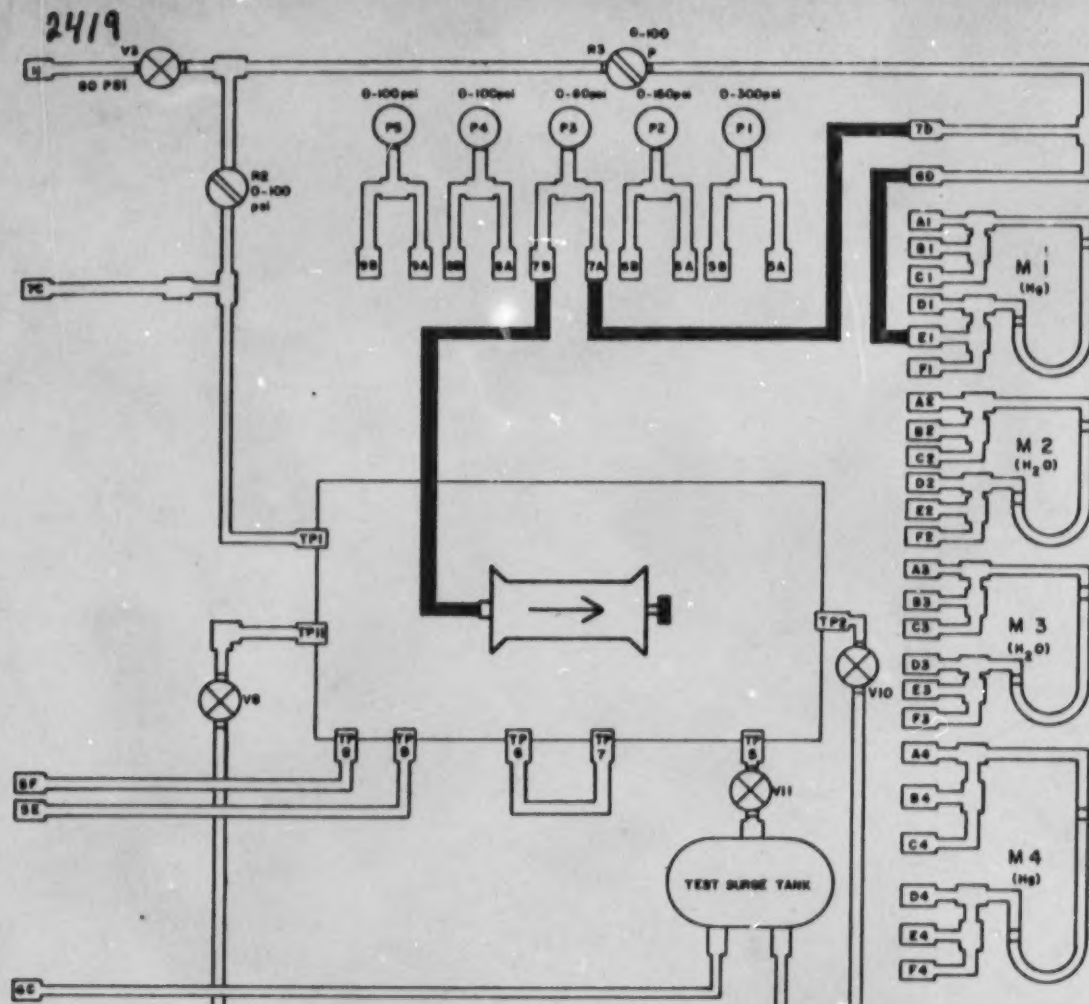

Figure 5. Pneumatic Valve Test Setup.
(1) Using figure 5, hook each pneumatic hose (heavy dark lines) to the valve and the trainer. M-1 manometer scale should be set to read zero on the inches of mercury scale.
(2) Place switch S-1 to ON.
(3) Open valve V-3.
(4) Slowly build pressure by turning regulator R-3 ²⁴²⁰ clockwise until the valve indicator shows closed. This should happen as soon as pressure is applied. If not, your hookup must be wrong.
(5) Once the valve is closed, reduce the pressure by turning regulator R-3 counterclockwise until manometer M-1 shows zero.
(6) Place switch S-2 to position 3.